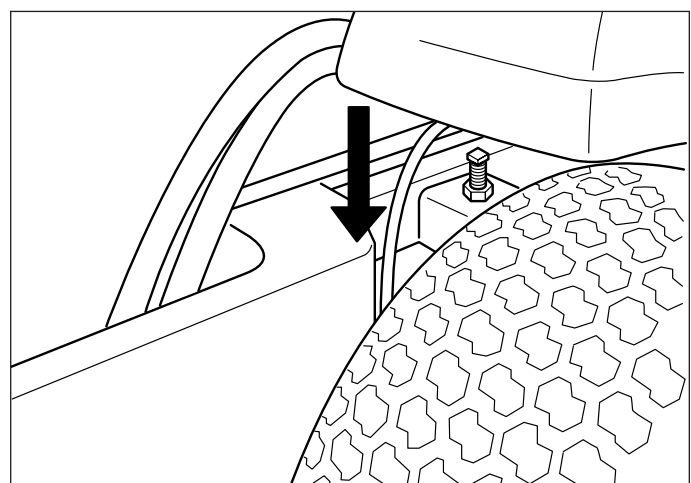

Figure 37. Rear Suspension Adjustment
1. The measurement to the top of the rear frame rails, at the widest point on the frame behind the drive tires should be 22-3/8" (56,8cm) for each side (see arrow in Figure 37).